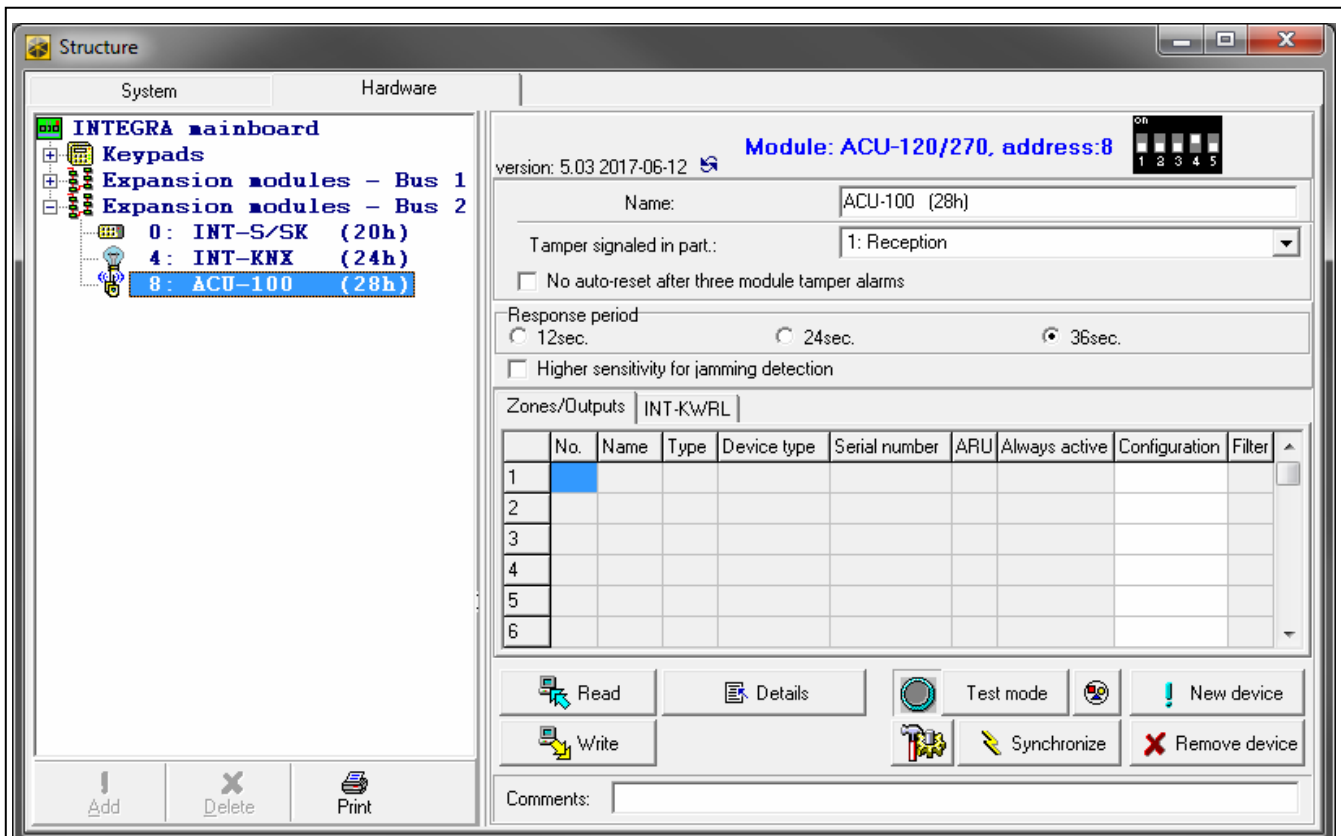

Fig. 3. DLOADX program: parameters and options of the controller connected to INTEGRA / INTEGRA Plus control panel.
- INTEGRA / INTEGRA Plus – in the “Structure” window, “Hardware” tab, after clicking on the controller name in the list of devices (Fig. 3);